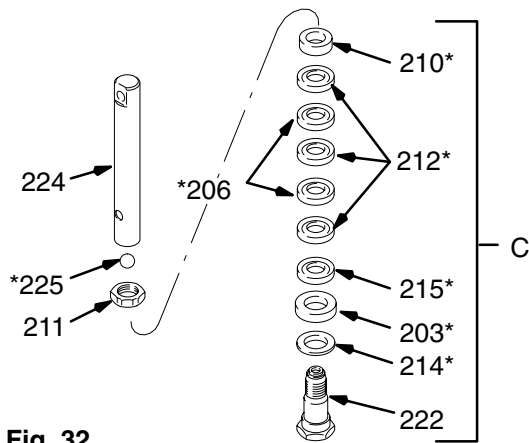

Fig. 32 04232
8. Clamp the flats of the piston rod (224) in a vise. Loosen the nut (211). Unscrew the piston valve (222) from the rod. Remove all the parts from the piston assembly (C). See Fig. 32.
9. Remove the sleeve (218), using the sleeve removal tool, Part No. 222–586. Clean the sleeve and the cylinder.